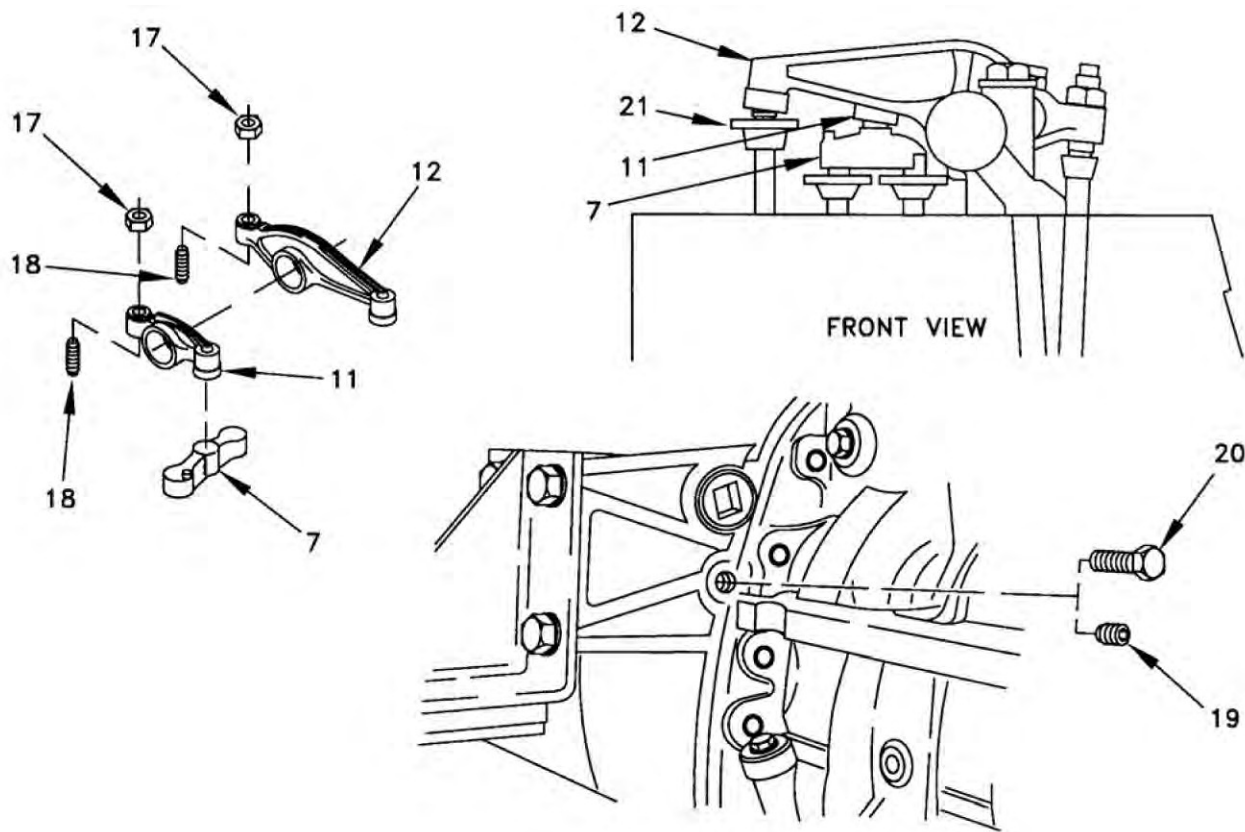

Figure 3. Valve Lash Adjustment.
1. Loosen nut (Figure 3, Item 17) and loosen adjustment screw (Figure 3, Item 18) on inlet rocker arm (Figure 3, Item 11) for cylinders 1, 2, and 4.
2. Refer to Table 3 and insert feeler gage of correct dimension between inlet rocker arm (Figure 3, Item 11) and inlet bridge (Figure 3, Item 7).
3. Turn adjustment screw (Figure 3, Item 18) clockwise (CW) until inlet rocker arm (Figure 3, Item 11) is set to specification in Table 3.
4. Tighten nut (Figure 3, Item 17) on adjustment screw to 13-23 lb•ft (18-32 N•m).
5. Check adjustment and perform steps 1 through 4 until inlet rocker arm (Figure 3, Item 11) is set to specification.
6. Perform steps 1 through 5 on remaining two inlet rocker arms (Figure 3, Item 11).
7. Loosen nut (Figure 3, Item 17) and loosen adjustment screw (Figure 3, Item 18) on exhaust rocker arms (Figure 3, Item 12) for cylinders 1, 3, and 5.
8. Refer to Table 3 and insert feeler gage of correct dimension between exhaust rocker arm (Figure 3, Item 12) and exhaust valve stem (Figure 3, Item 21).
9. Turn adjustment screw clockwise (CW) until exhaust rocker arm (Figure 3, Item 12) is set to specification in Table 3.
10. Tighten nut (Figure 3, Item 17) on adjustment screw (Figure 3, Item 18) to 13-23 lb•ft (18-32 N•m).
11. Check adjustment and perform steps 7 through 10 until exhaust rocker arm (Figure 3, Item 12) is set to specification.
12. Perform steps 7 through 11 on remaining two exhaust rocker arms (Figure 3, Item 12).
13. Remove timing bolt (Figure 3, Item 20) from front of flywheel housing. Rotate flywheel 360 degrees counterclockwise (CCW). Install timing bolt (Figure 3, Item 20) in front of flywheel housing.
14. Loosen nut (Figure 3, Item 17) and loosen adjustment screw (Figure 3, Item 18) on inlet rocker arms (Figure 3, Item 11) for cylinders 3, 5, and 6.
15. Perform steps 1 through 5 on three inlet rocker arms (Figure 3, Item 11).
16. Loosen nut (Figure 3, Item 17) and loosen adjustment screw (Figure 3, Item 18) on exhaust rocker arms (Figure 3, Item 12) for cylinders 2, 4, and 6.
17. Perform steps 7 through 11 on three exhaust rocker arms (Figure 3, Item 12).
18. Remove timing bolt (Figure 3, Item 20) and install plug (Figure 3, Item 19) on front of flywheel housing.